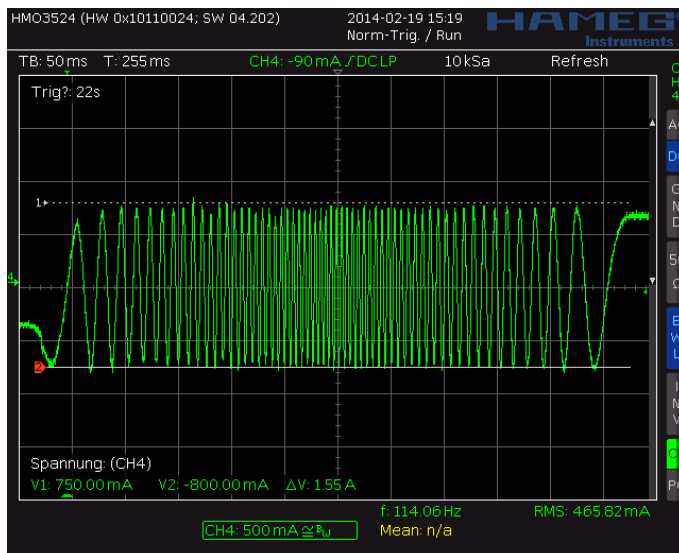
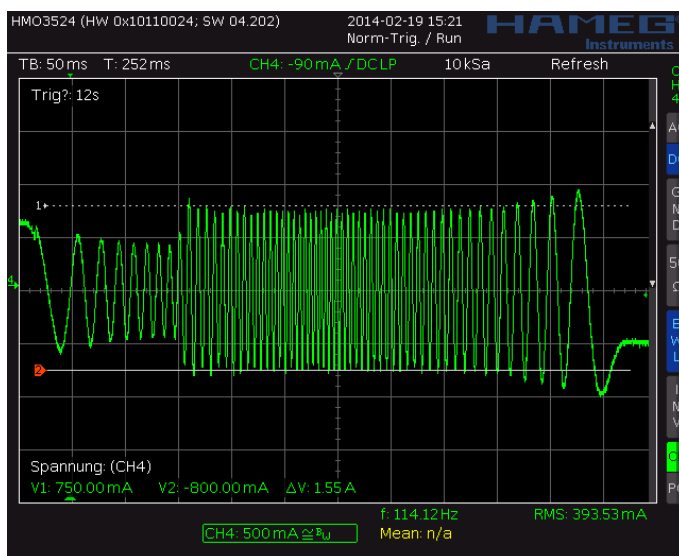
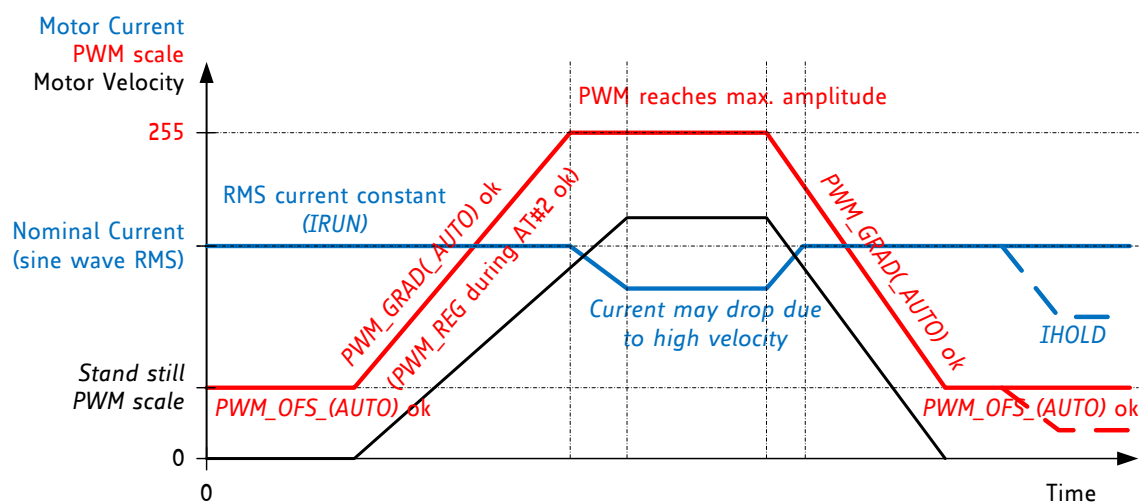

Figure 6.3 Scope shot: good setting for PWM\_REG
Figure 6.4 Scope shot: too small setting for PWM\_REG during AT#2
Figure 6.5 Successfully determined PWM\_GRAD(AUTO) and PWM\_OFS(AUTO)
In StealthChop voltage PWM mode, the autoscaling function (*pwm\_autoscale* = 1, *pwm\_auto\_grad* = 1) regulates the motor current to the desired current setting. Automatic scaling is used as part of the automatic tuning process (AT), and for subsequent tracking of changes within the motor parameters. The driver measures the motor current during the chopper on time and uses a proportional regulator to regulate *PWM\_SCALE\_AUTO* in order match the motor current to the target current. *PWM\_REG* is the proportionality coefficient for this regulator. Basically, the proportionality coefficient should be as small as possible in order to get a stable and soft regulation behavior, but it must be large enough to allow the driver to quickly react to changes caused by variation of the motor target current (e.g. change of VREF). During initial tuning step AT#2, *PWM\_REG* also compensates for the change of motor velocity. Therefore, a high acceleration during AT#2 will require a higher setting of *PWM\_REG*. With careful selection of homing velocity and acceleration, a minimum setting of the regulation gradient often is sufficient (*PWM\_REG*=1). *PWM\_REG* setting should be optimized for the fastest required acceleration and deceleration ramp (compare Figure 6.3 and Figure 6.4). The quality of the setting *PWM\_REG* in phase AT#2 and the finished automatic tuning procedure (or non-automatic settings for *PWM\_OFs* and *PWM\_GRAD*) can be examined when monitoring motor current during an acceleration phase Figure 6.5.